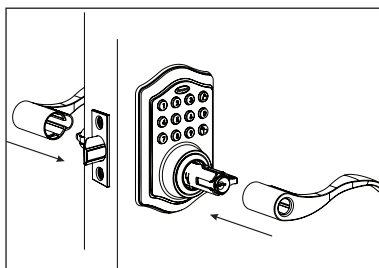

Figure 12b
- Replace handles by sliding onto the bases until the catch pins are engaged. (Figure 12b).